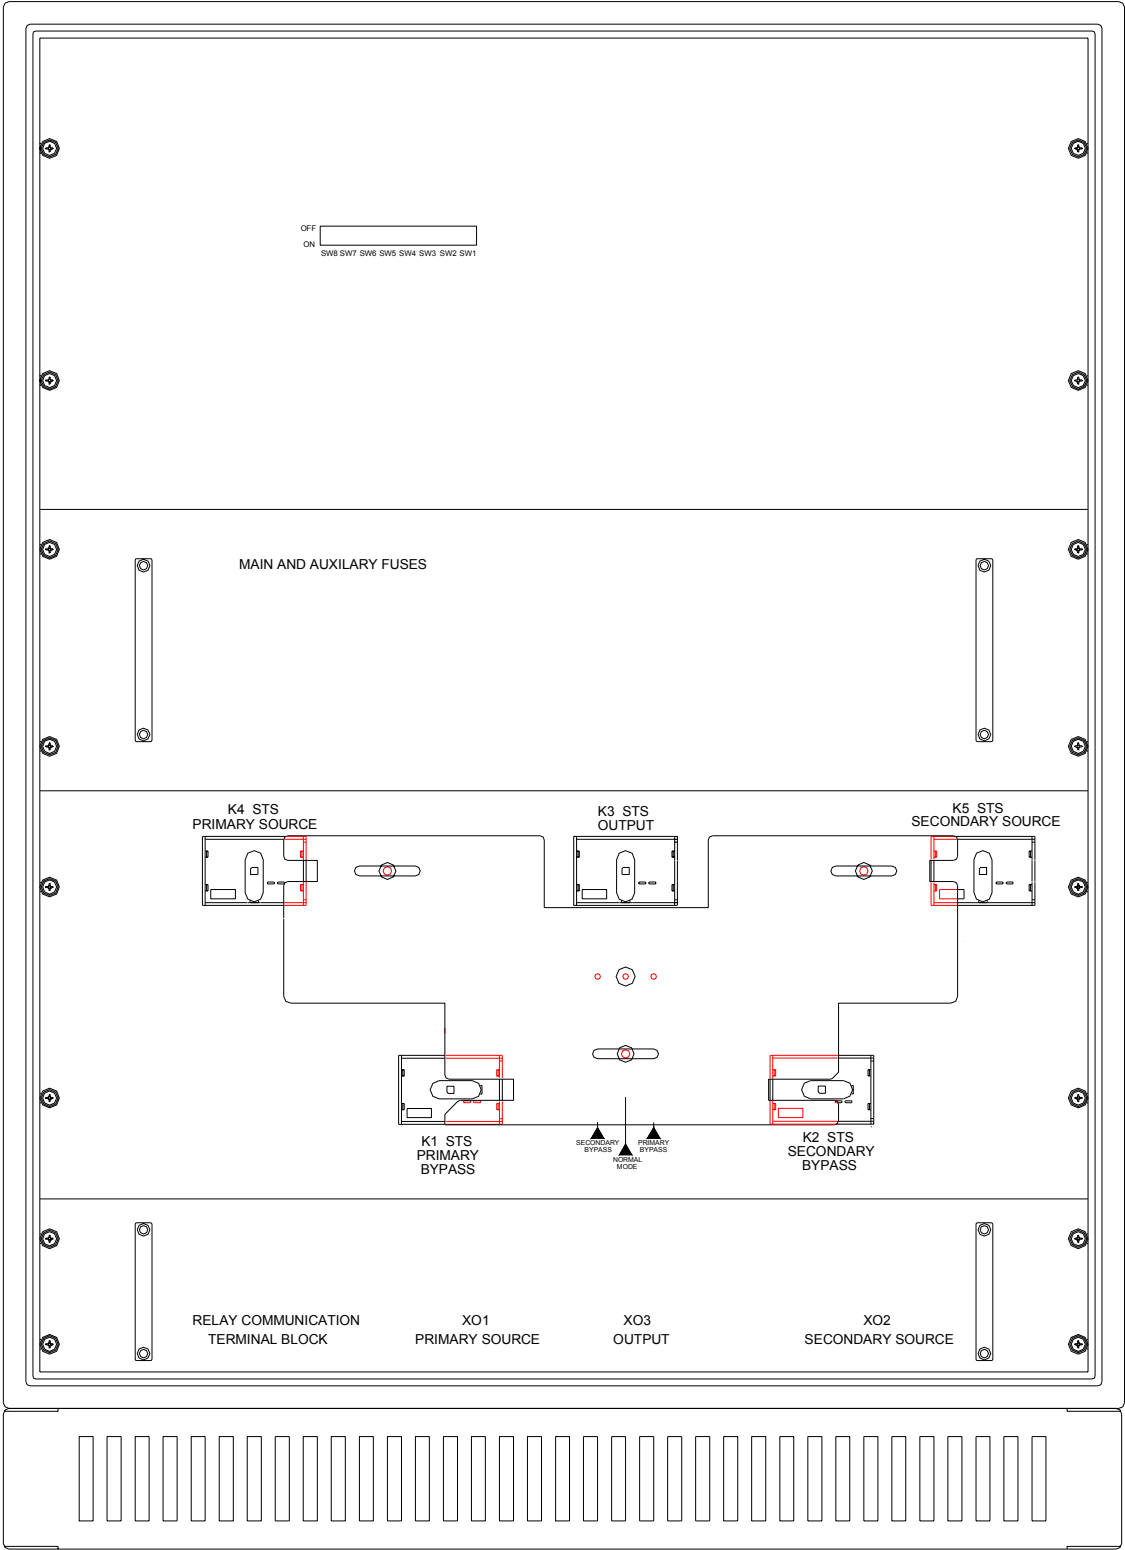

Figure 3. STS with opened door
Five switches (figure 3) are set from the front panel without need for taking out the panel. These switches are equipped with a mechanical interlock that prevents against short circuit between both supplying sources. Each of them may be set manually into one of two positions: either “ON” or “OFF”. The device operates in STS mode if the switches are set as in table 1.
5. Unscrew 4 screws (figure 3) from the lowest panel and take the panel out.